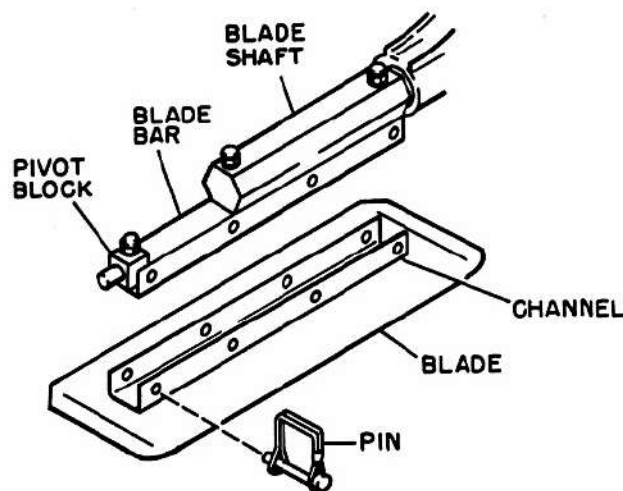

Figure 11
2. Remove rubber boot (2) with knurled insert.
3. Remove switch cover plate (10).
4. Carefully remove switch (11) and wiring from joystick.
- b. Be sure to install the lever spring as shown in Figure 11 (leg of the long hook toward the joystick). If the spring is installed upside down, the leg on the long hook will hit clevis pin (5).
Each blade is attached to its blade bar by means of two spring clips which pass horizontally through the blade and blade bar. (See Figure 11) This method provides for quicker and easier blade changes.